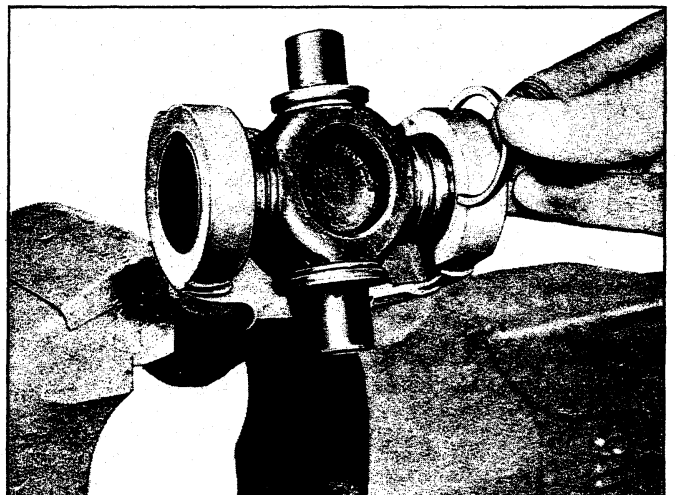

Fig. 112—Installing Snap Ring to Retain Trunnion
- e. Install bearing retainer snap rings making sure that gap in ring is toward yoke (fig. 112).